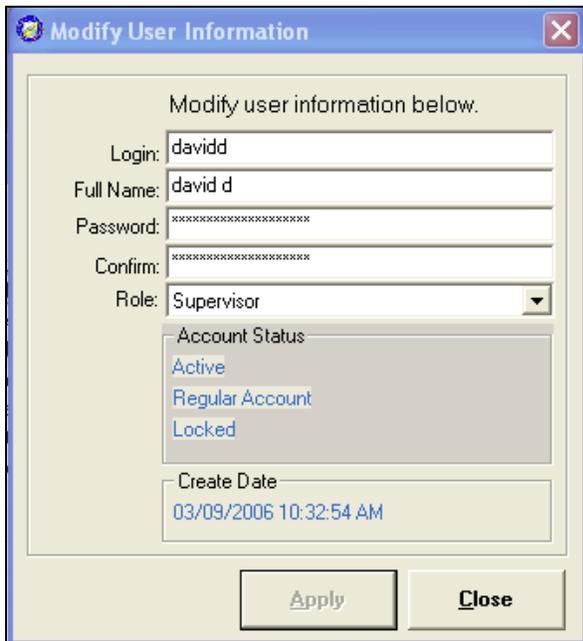

Figure 3.13
3. A ‘Modify User Information’ screen appears: (Figure 3.13).